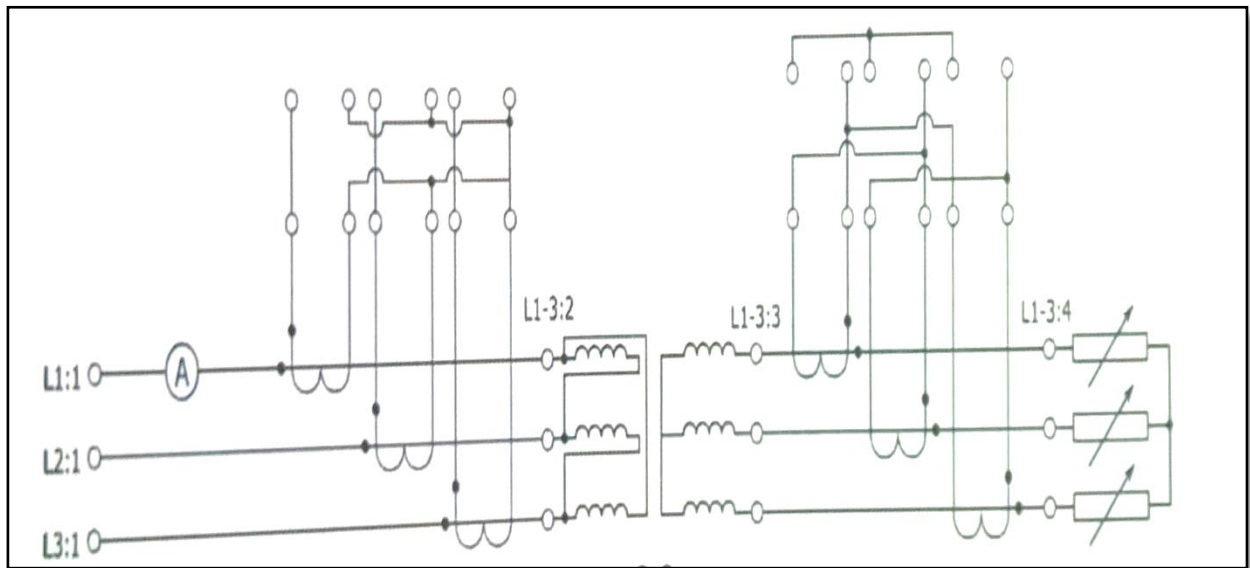

Figure 13.1: Y connection of CTs for a Dy Transformer
- Connect the CTs on both side of the transformer in Y. Do not forget that the CT output on one side of the transformers must be 180 degrees out of phase as compared to the other side (Refer to figure 13.1).